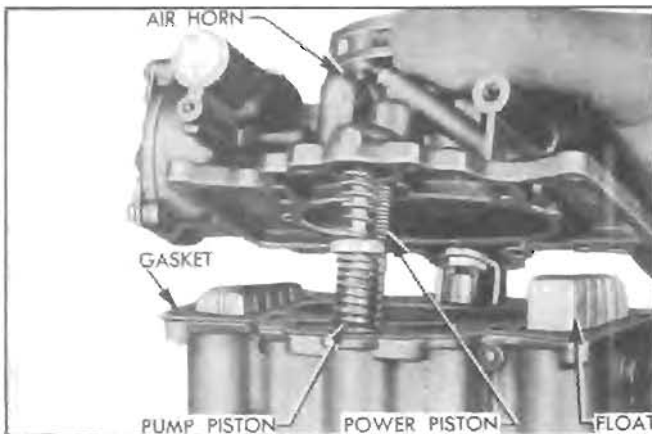

Figure 3-58—Removing Air Horn and Attached Parts
4. Remove screws and carefully lift air horn straight up from main body to avoid damaging the float, pump piston, and vacuum power piston which are attached to air horn. Remove pump piston. See figure 3-58.